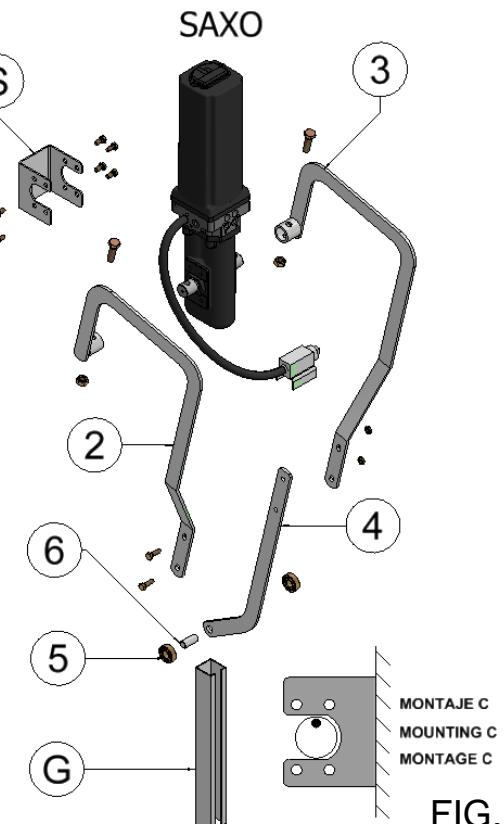

FIG. 7
Installation accessories Figure 7.
2. The point marked on the rotary shaft on the right-hand side of the operators 1RM* and 2RMI* and must be as shown in figure 7. Before welding parts "1","2","3" and "4" of figure 7 to the operator as shown in figure 7 the operator should be rotated approximately 5 degrees away from the end position. Then fit parts "5" and "6" of figure 7.
3. Fix part "G" of figure 7 to the door as shown in figure 5.